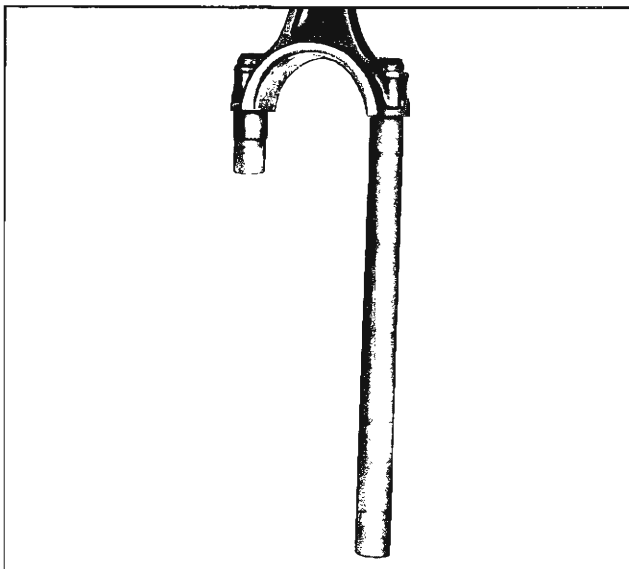
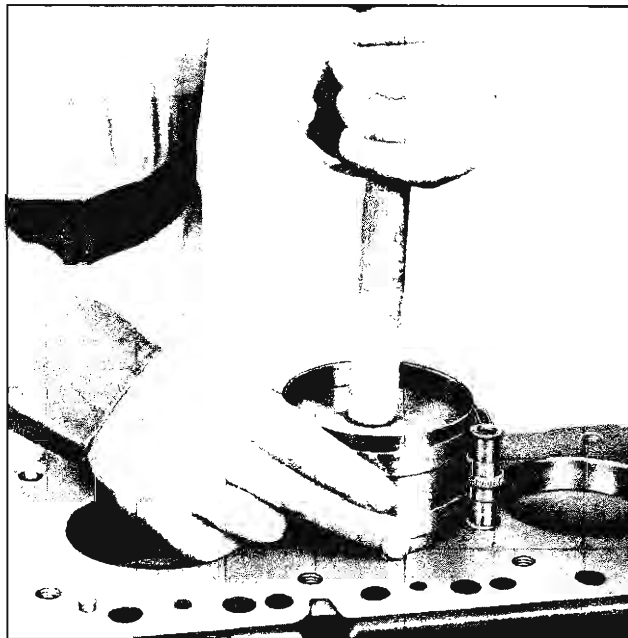

Fig. 64—Guide Tool Installed
Fig. 65—Installing Piston in Cylinder
3. Be sure ring gaps are spaced around piston, then install each piston in its respective bore, using Tool J-5239 on each assembly (fig. 65). The side of the piston with the cast notch in the top edge of head should be to the front of the cylinder block and the oil hole on connecting rod towards the camshaft side of the engine. Guide the connecting rod bearing into place on the crankshaft journals with the long detail of Tool J-5239 (fig. 64).